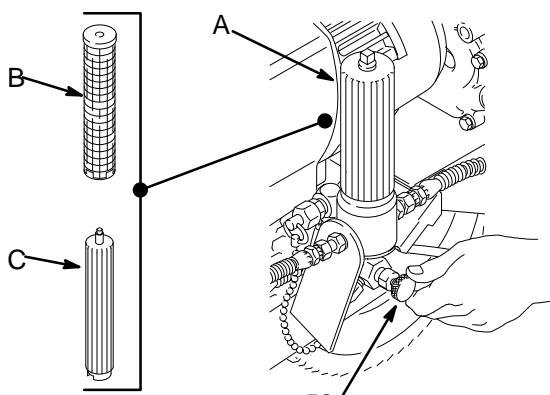

Fig. 4
- Remove the spray tip from the gun. Remove the filter bowl (A) and screen (B); see manual 307-273. Clean the screen separately and install the bowl without the screen to flush it. See Fig. 4.